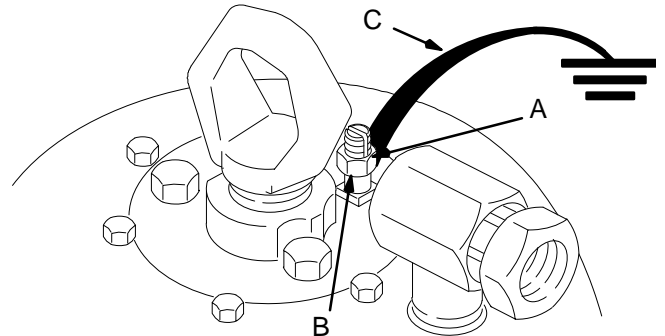

Fig 2
1. *Pump*: use a ground wire and clamp as shown in Fig 2 .
To ground the pump, loosen the grounding lug locknut (A) and washer (B). Insert one end of a 12 ga (1.5 mm) minimum, ground wire (C) into the slot in the lug and tighten the locknut securely. See Fig 2. Order part no. 237569 Ground Wire and Clamp. Connect the clamp end of the ground wire to a true earth ground.